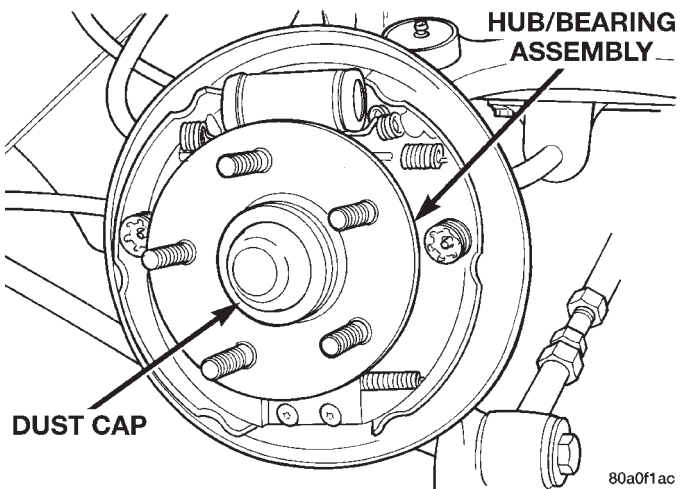

Fig. 72 Hub And Bearing Dust Cap
(1) Raise vehicle on jackstands or centered on a hoist. See Hoisting in the Lubrication and Maintenance section of this manual.
(2) Remove rear tire and wheel assembly from vehicle.
(3) Remove the dust cap from the rear hub and bearing assembly (Fig. 72).